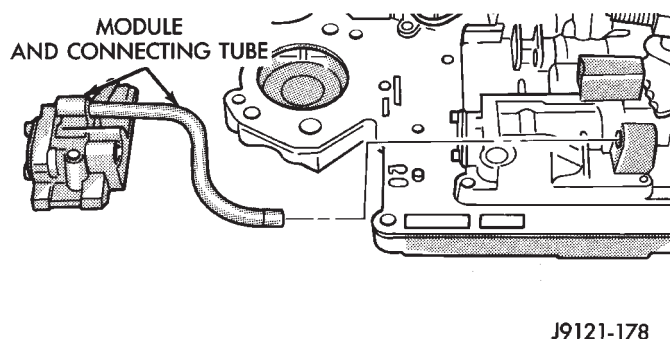

Fig. 106 Clutch Module And Connecting Tube Removal/Installation
(9) Remove screws attaching converter clutch module to valve body and remove module and connecting tube (Fig. 106).
(23) Position adjusting screw bracket on valve body. Align valve springs and press bracket into place. Install short, upper bracket screws first and long bottom screw last. Verify that valve springs and bracket are properly aligned. Then tighten all three bracket screws to 4 N·m (35 in. lbs.) torque.
(24) Install module and connecting tube. Be sure long end of tube goes to module (Fig. 106). Tighten module screws to 4 N·m (35 in. lbs.) torque.
(25) Install throttle lever in valve body. Then install manual lever over throttle lever and start manual lever into valve body.